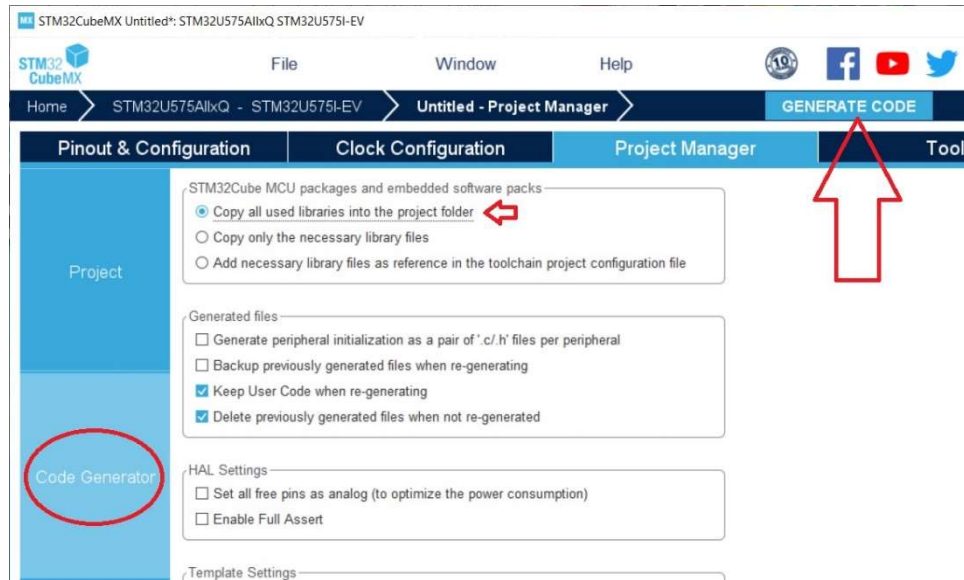

Figure 3.8 – Code Generator
- b) Choose the “**Code Generator**” option and make sure to select “**Copy all used libraries into the project folder**” as shown in Figure 3.8. Once this is done, click on the “**GENERATE CODE**” button. STM32CubeMX will generate all the necessary files and create the appropriate workspace, which the user will be able to compile without errors.